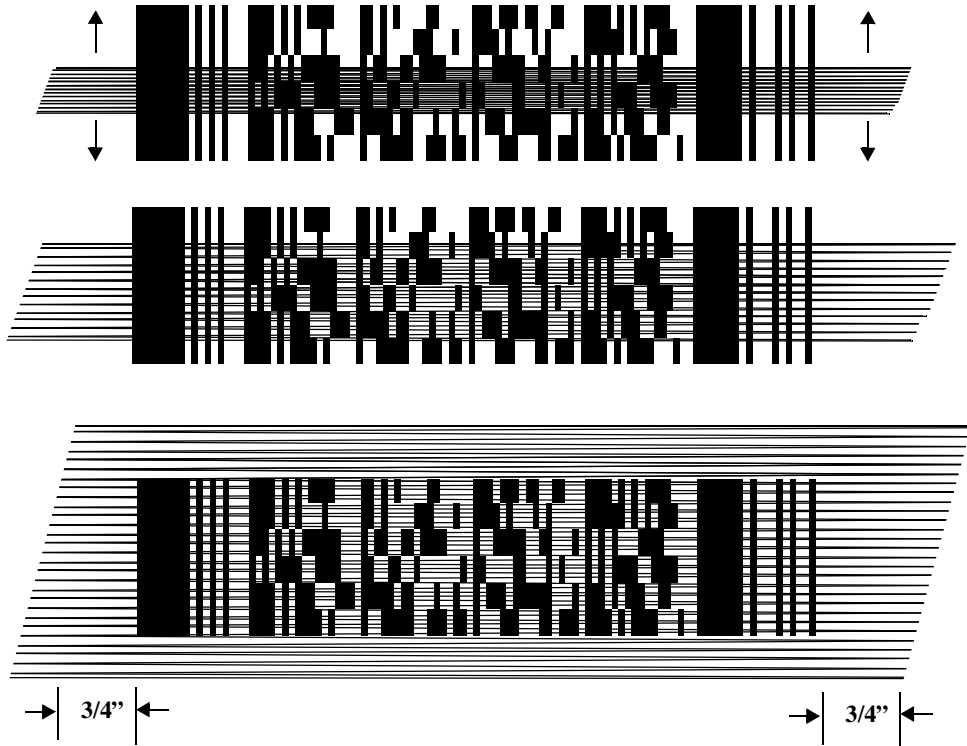

Figure 5-3. Scanning Pattern Spreading Over PDF417 Bar Code
If the pattern is parallel to the symbol's rows, the pattern spreads vertically to cover the symbol (Figure 5-3). If the pattern does not cover the top and bottom of the symbol, pull the scanner back until it does.
- ◆ Center the aiming pattern on the bar code, as illustrated in Figure 5-3.